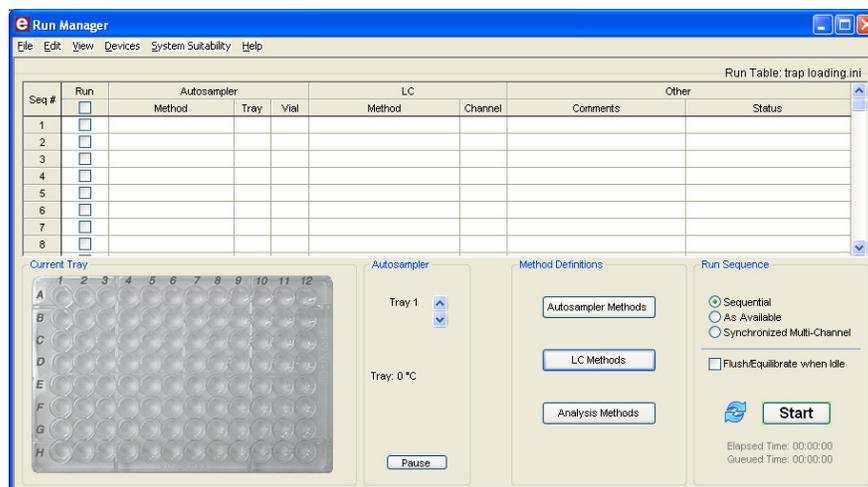

Figure 5-15. Creating a New Run Table
step 2 Create a new, blank **Run Table** by selecting **Edit > Erase Table** (Figure 5-15).